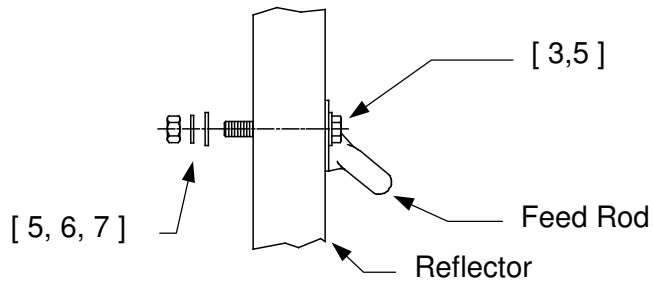

**FIGURE 2**
- A). Attach right and left feed rods to the reflector with (items 3, 6, 7) and with (2) of ( item 5 ). See Figure 2 and Detail A.